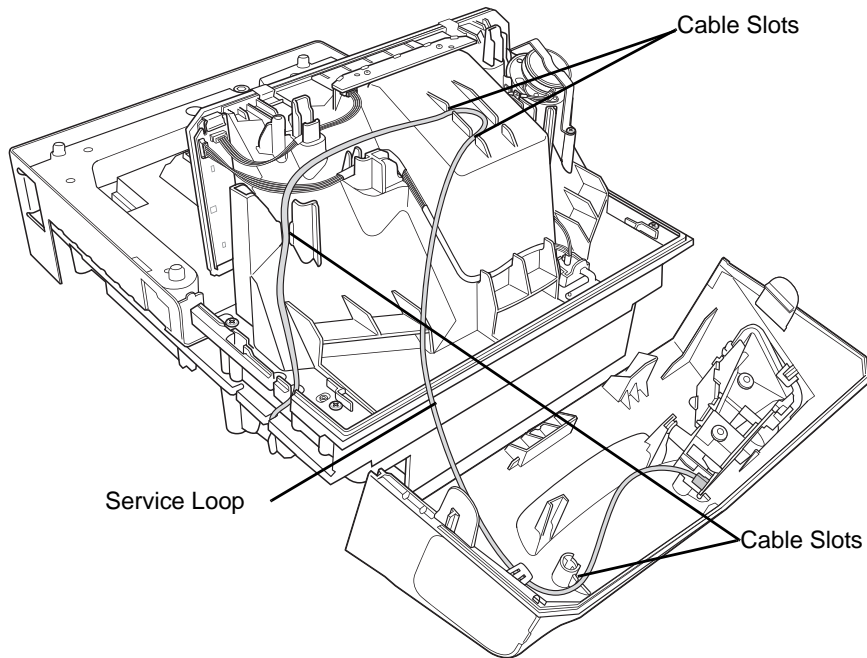

Figure 3-22 *Routing the Cable*
9. Route the cable, looping through the right side cable slots as shown in Figure 3-22. (Cable wire should be tight.)